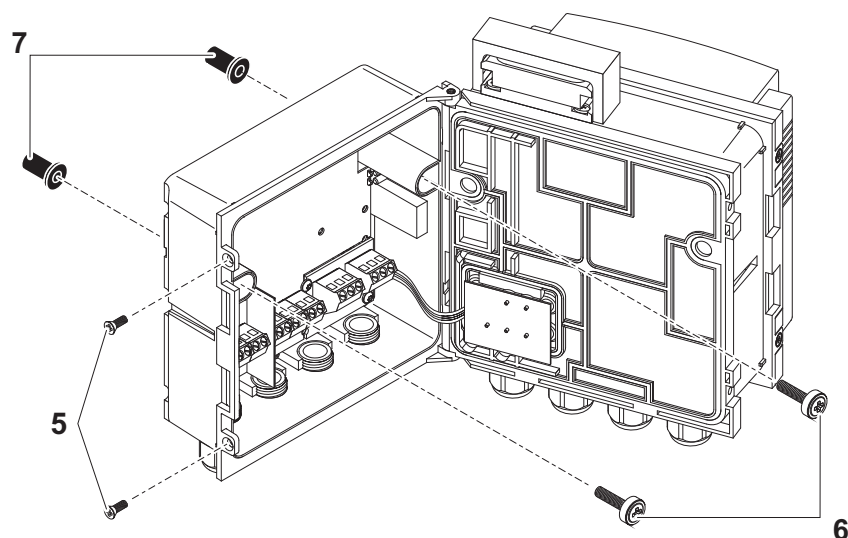

Fig. 3-16 Mounting the sun shield: Premounting the ISO blind nuts
| 2 | Remove the two countersunk screws (pos. 5 in Fig. 3-16) and swing open the lid. |
| 3 | Insert the cheese-head screws (pos. 6 in Fig. 3-16) with the plastic washers in the drilled mounting holes and loosely screw in the ISO blind nuts (pos. 7). |
| 4 | Position the DIQ/S 182-XT-4-PR on the sun shield and fix it into place with the two screws (pos. 6 in Fig. 3-16). |
| 5 | Close the lid and fix it with the two countersunk screws (pos. 5 in Fig. 3-16). |